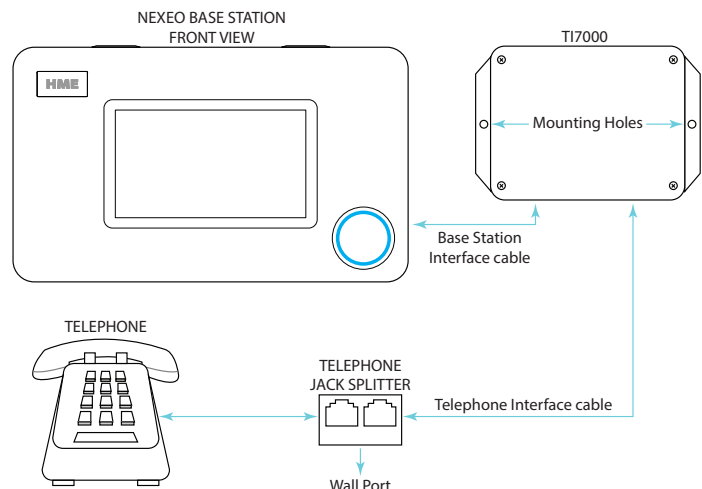

Fig. 12.1
1. Hold the TI7000 against the wall and mark the wall through the two mounting holes on each end of the unit (see Fig. 12.1).
2. Plug the telephone into one of the ports on the telephone jack splitter. See Fig. 12.1.
3. Plug one end of the included telephone interface cable into the other port on the telephone jack splitter and connect the other end to the RJ11 port on the TI7000. See Fig. 12.1 and 2.